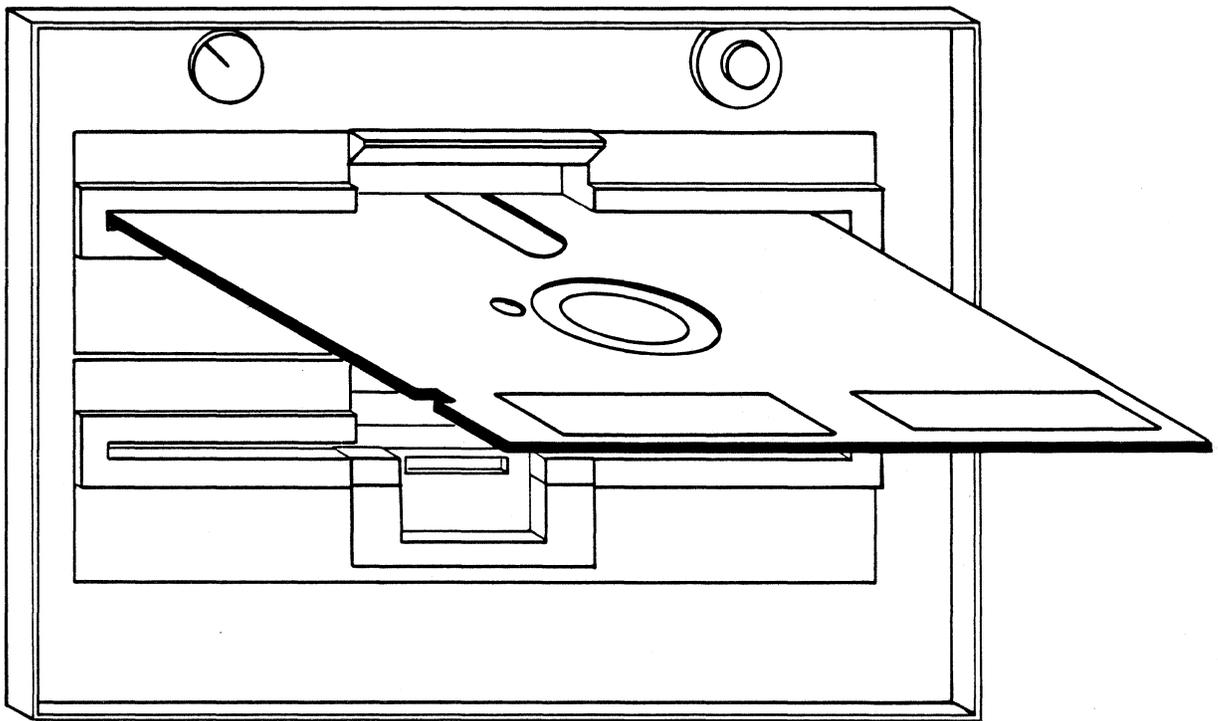

Figure 3-1 Disk Drive Slot
2. After the fan starts up, open the keyboard panel by pulling forward from the upper right hand corner. Insert the system diskette, which you received with the unit, into the drive slot with the top arrow pointing in the direction of the disk drive. **Figure 3-1, Disk Drive Slot.** Close the disk drive door smoothly and gently.
Open the disk drive by pushing the lever up. Remove any protective white cardboard found in the disk drive. Hold the diskette with the label towards the top, and the oval read/write window forward. Insert until the diskette clicks in place, but be careful not to bend the it. Close the drive door by pulling down the lever slowly until it stops. If the drive door is closed too fast, the diskette may not center properly. See Figure 3-1, **Inserting The Diskette.**